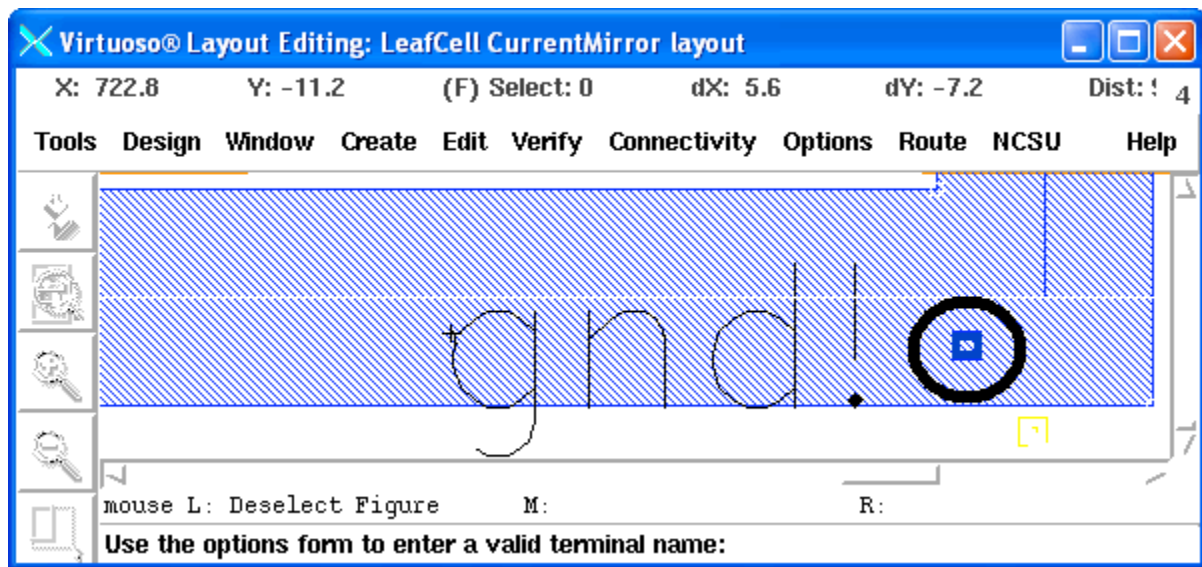

Figure 87: Stamping down the ground pin.
26. Go back to the *Create Symbolic Pin* form; fill in the *Terminal Name* as “gnd!”; make sure the *I/O type* is **inputOutput**, and then stamp it down as in Figure 87. Click on ESC to exit the adding pin mode.